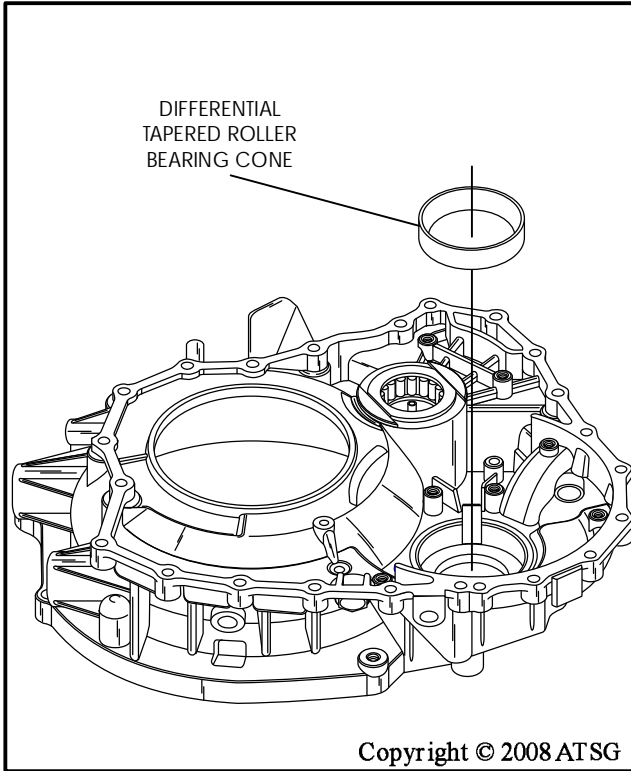

Figure 91
3. Install new differential tapered roller bearing cone, if necessary, as shown in Figure 91.